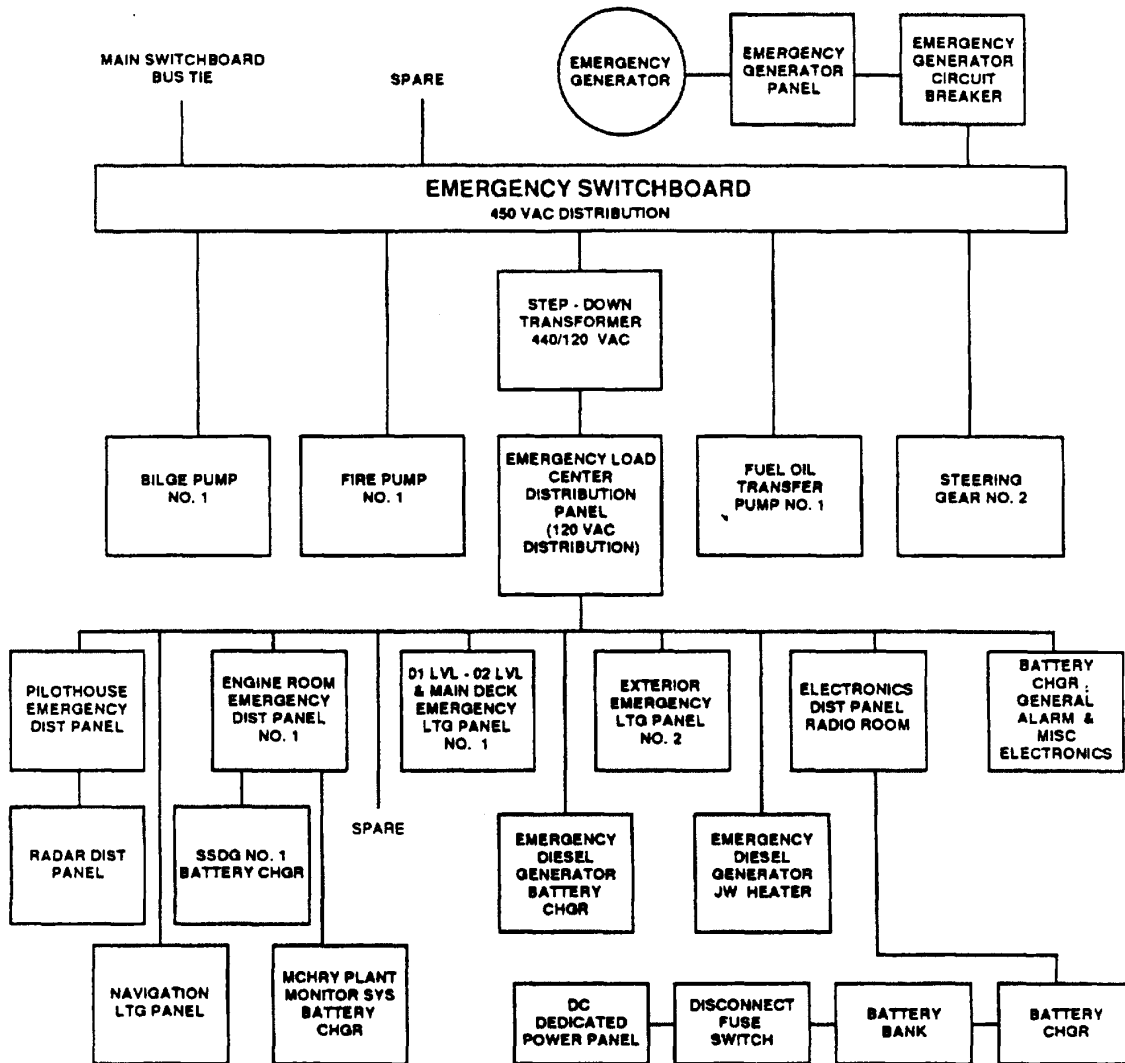

Figure 1-53. Emergency Switchboard.
(2) Emergency switchboard. The emergency switchboard (Figure 1-53), located in the emergency generator room, normally receives 440 Vac primary power from the main switchboard through the bus tie. Upon loss of ship service power from the main switchboard, a bus tie breaker transfer within the emergency switchboard isolates the emergency switchboard and provides for automatic or manual starting of the emergency generator. Power monitoring is provided by a voltmeter, ammeter, and frequency meter. A main switchboard bus tie circuit breaker and feedback switch permits distribution of emergency power (440 Vac) to the main switchboard. The emergency generator circuit breaker is prevented from being closed by an interlock system when primary power is being closed by an interlock system when primary power is being provided through the bus tie. Power distribution (440 Vac) is accomplished through circuit breakers on the switchboard. A step-down transformer provides 120 Vac to the Emergency Load Center Distribution Panel.
Battery chargers for each battery bank are provided. The chargers are supplied from the emergency load center distribution panel (120 Vac) (Fig. 1-53).